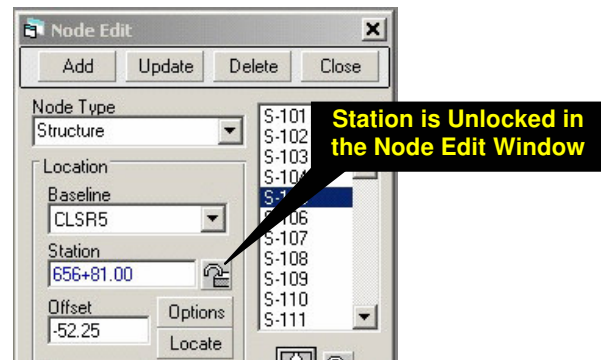

Figure 4.2
**Low Point Station Adjustment:** This checks and adjusts (to the profile low point) all unlocked nodes (see figure 4.2) that are within 50' of a low point in the profile.